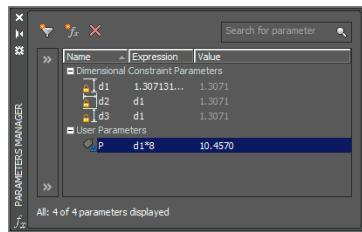

FIGURE 12.8 Adding a user parameter in the Parameters Manager
8. Type **P** (for Perimeter) as the user parameter name and press Enter. Double-click the Expression value, type **d1*8** (d1 times 8), and press Enter (see Figure 12.8). The perimeter of the square is equal to eight times the length of half of one of its sides. Close the Parameters Manager.